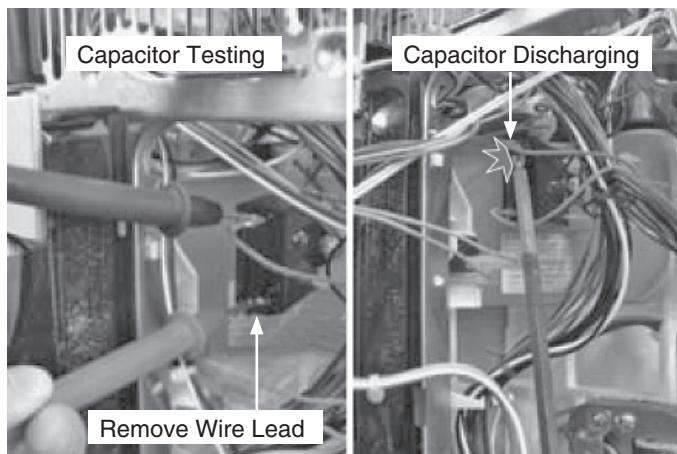

Figure 4-10. Vent Blower Assembly
1. Remove grille, discharge capacitor and disconnect one capacitor lead. (See Figure 4-10)
2. Make appropriate capacitor check (with analog meter needle should rise then fall, cap is charging then discharging). (See Figure 4-10)
2. Open control panel and discharge capacitor. (See Figure 4-10)